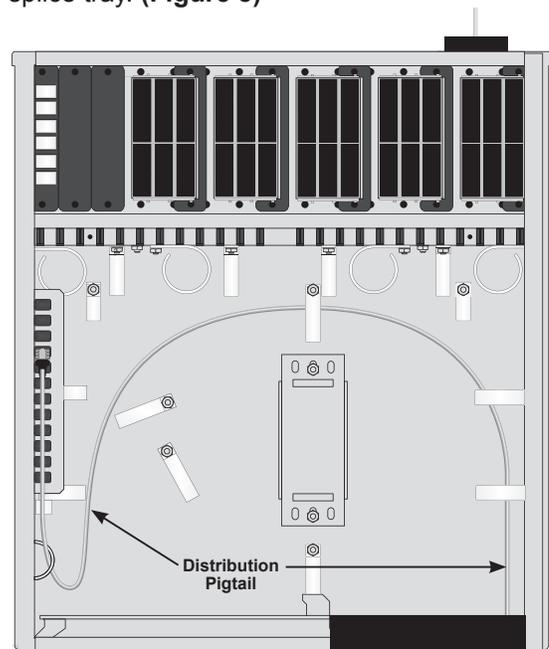

Figure 13
17. Use the fiber management rings to route the MPO pigtail fiber through the back side of the 144F IDC. **(Figure 13)**